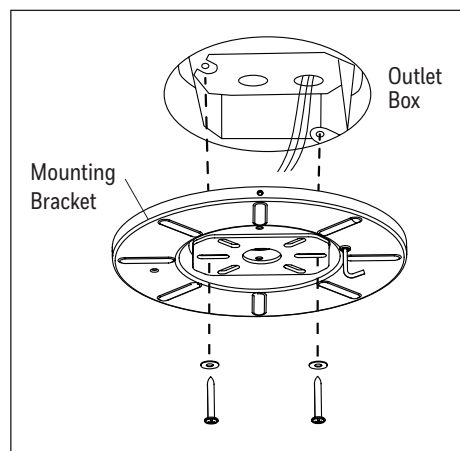

Figure 2.2
2. Install the mounting bracket to the outlet box (not included) using the screws and washers provided with the outlet box. **WARNING:** To reduce the risk of fire, electric shock, or personal injury, mount to the outlet box marked “acceptable for fan support” and use the mounting screws and washers provided with the outlet box (Figure 2.2).